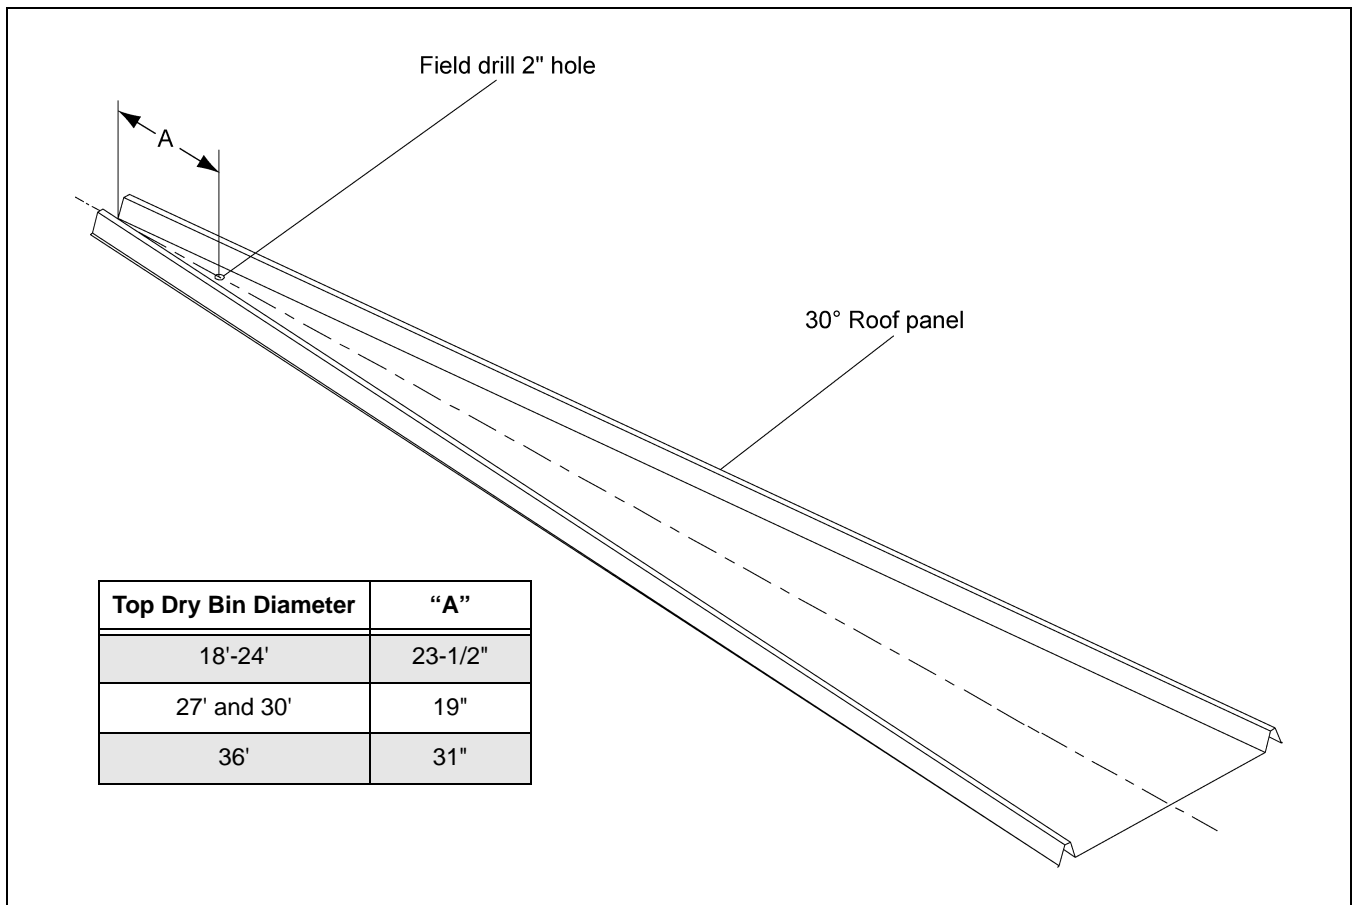
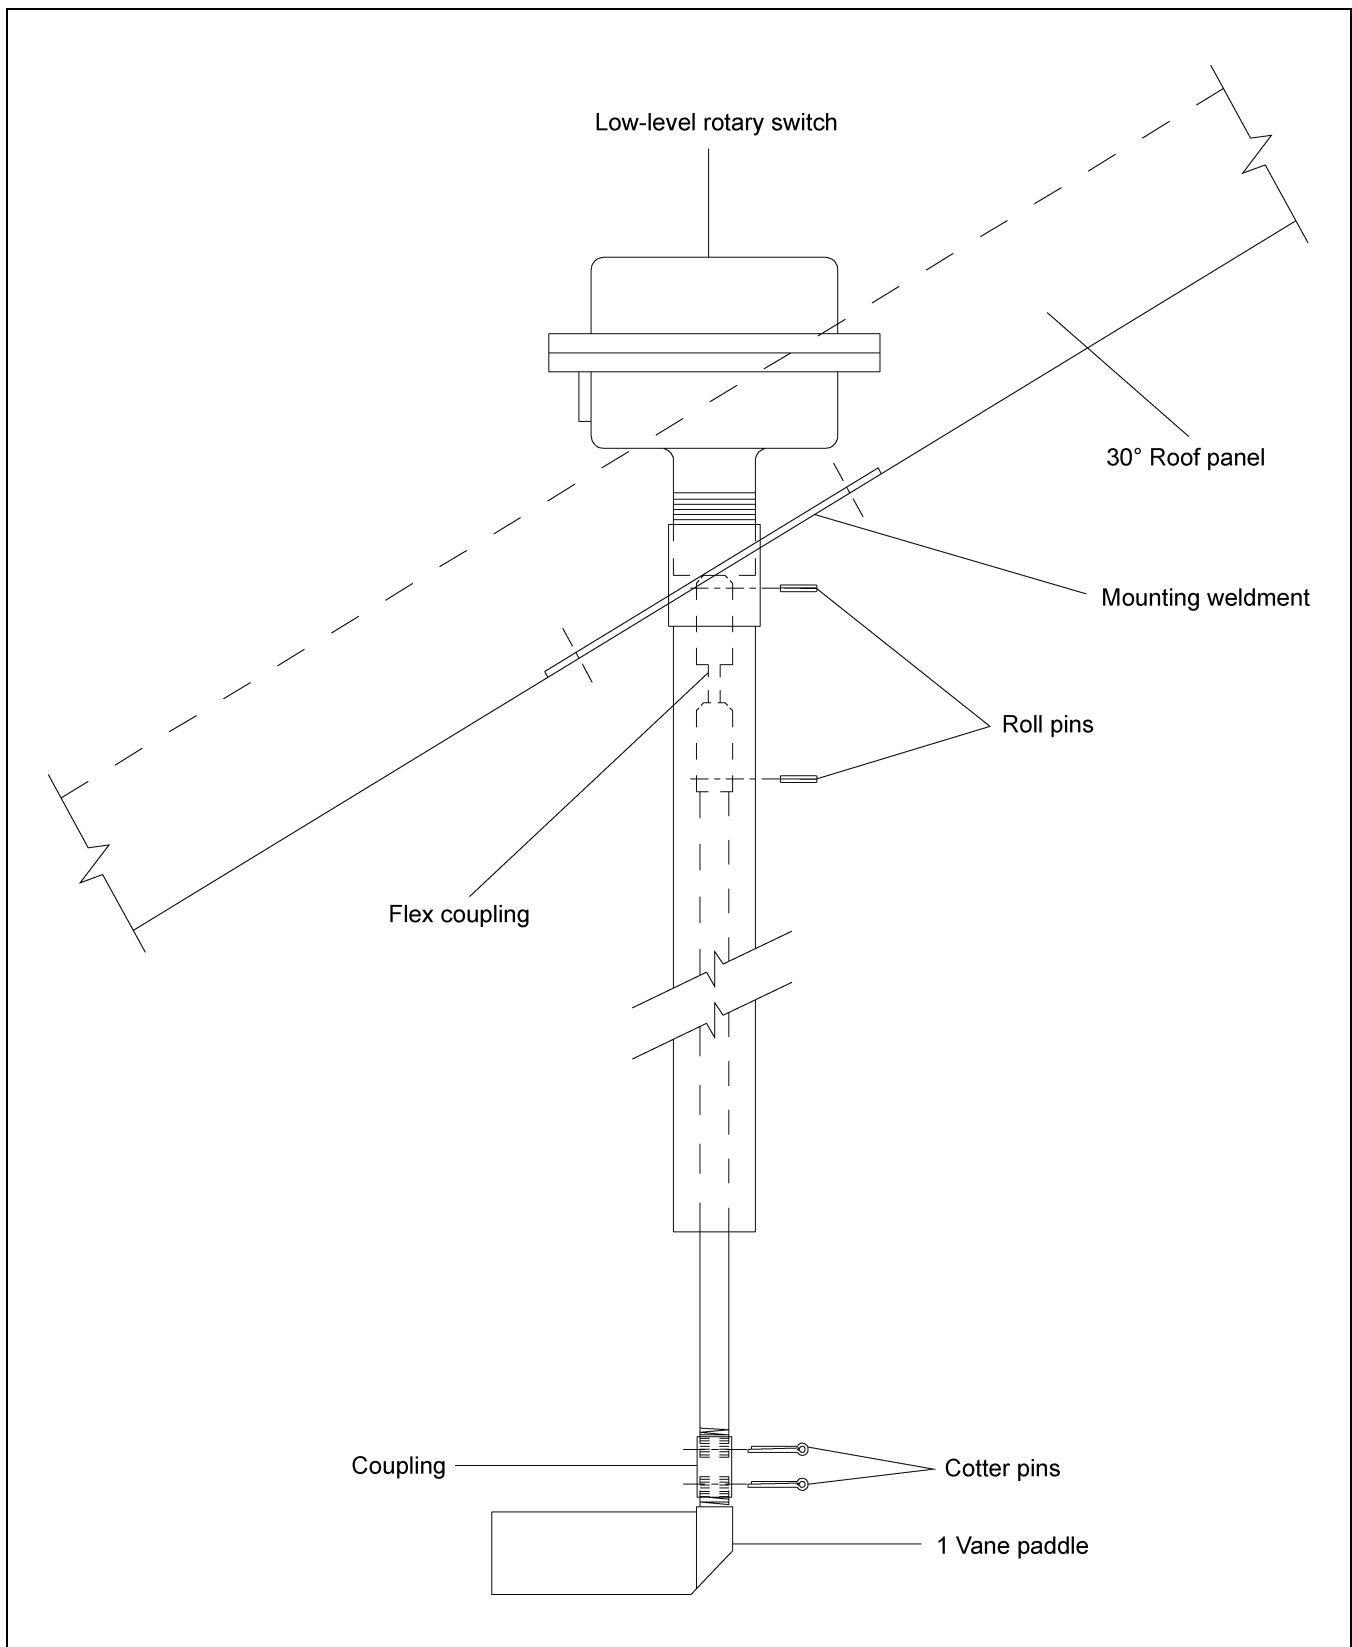
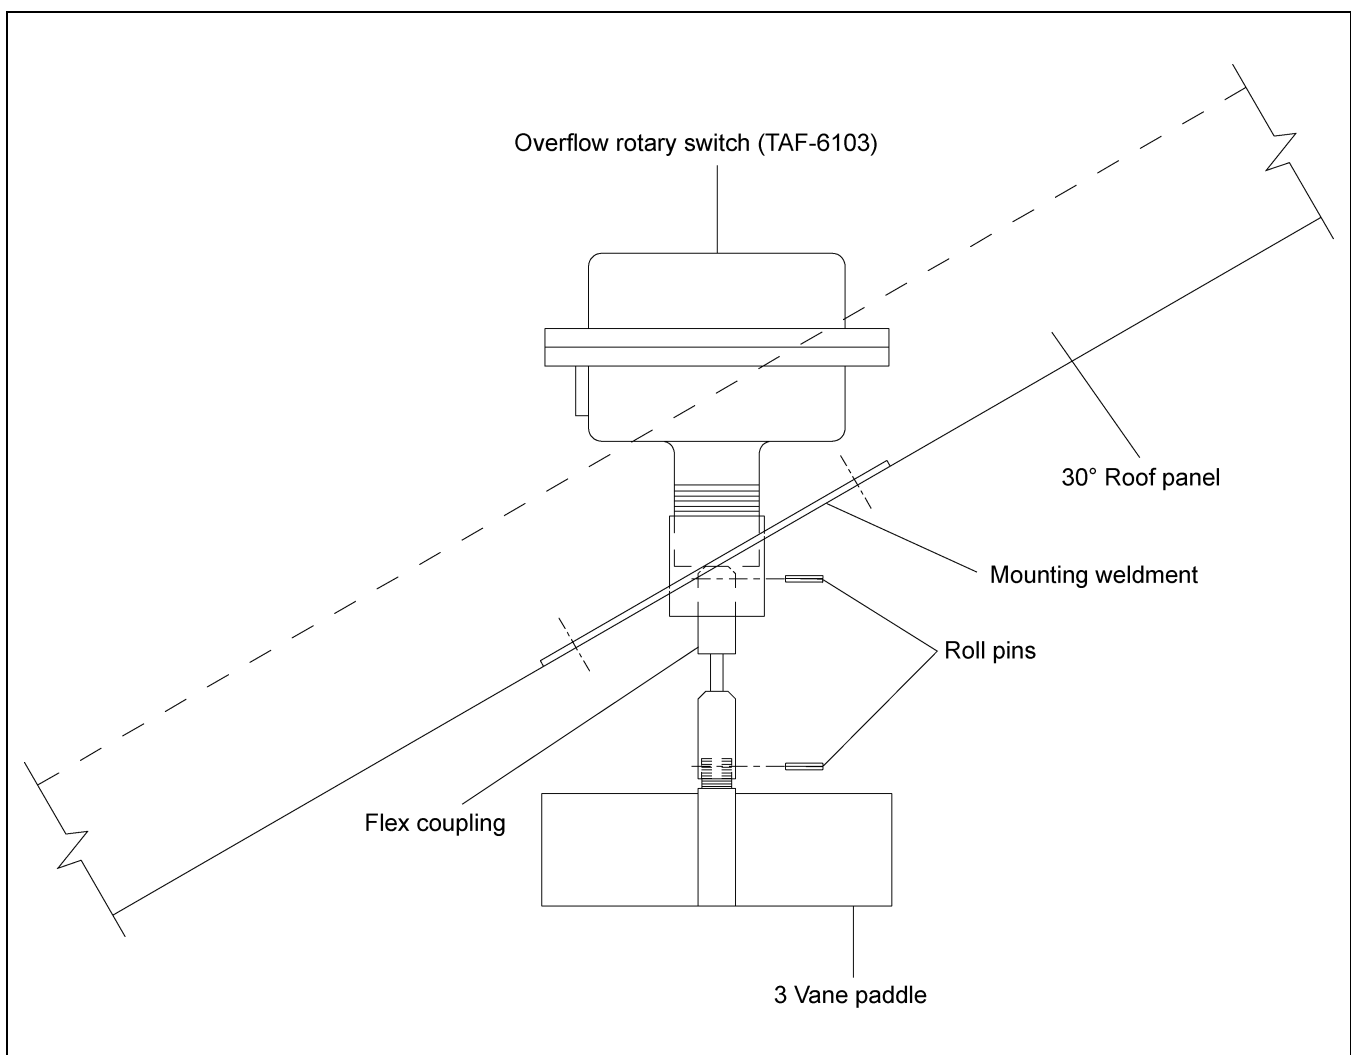

Figure 3R
Figure 3S
Figure 3U
1. Drill a 2" diameter hole through the roof panel at the location shown in Figure 3R. See component placement on Page 11 for proper placement in relation to fill auger.
2. Use the mounting plate as a pattern and drill four (4) 3/8" holes through the roof panel at the switch location so the plate can be bolted to the roof.
8. Attach the shaft extension according to Figure 3S on Page 29.
12. Attach the 1 vane paddle to the flex coupling as shown in Figure 3S on Page 29.
1. Drill a 2" diameter hole through the roof panel at the location shown in Figure 3R on Page 28. See component placement on Page 11 for proper placement in relation to fill auger.
8. Attach the 3 vane paddle to the flex coupling as shown in Figure 3U.